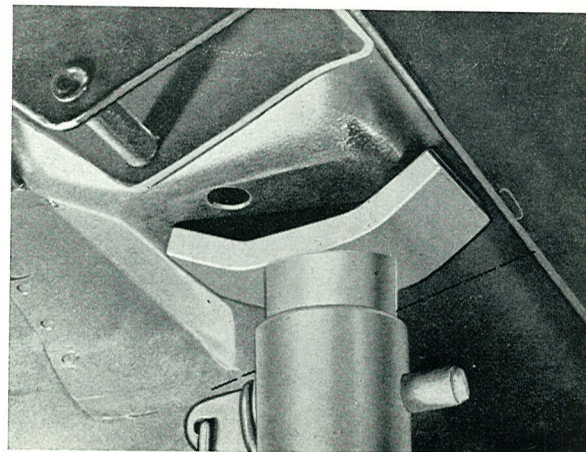

Fig. 4-93. Locating the block support
1. Place blocks in front of the front wheels. Loosen the rear wheel nuts. Place fixture SVO 2714 on a garage jack and lift up the rear end with this. Compare with Fig. 4-122. Place blocks in front of the rear jack attachments, see Fig. 4-93, and then lower the jack slightly. Note that the blocks must not be placed at a point further than the dash line indicated in the figure. Remove the rear wheels.